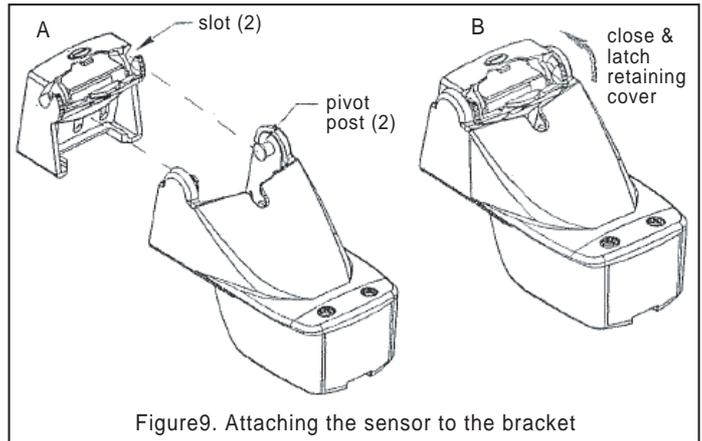

Figure9. Attaching the sensor to the bracket
2. Insert the sensor's pivot posts into the slots in the top of the bracket (see Figure9). Push down until the posts click into place.